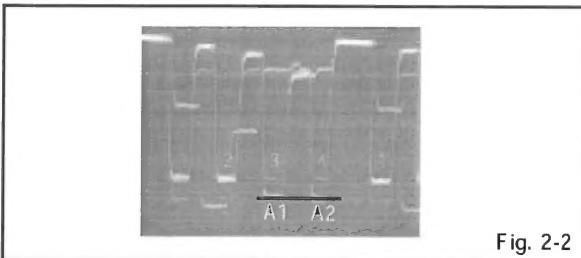

Fig. 2-2
13. Press the VOL. UP/DOWN button on the remote control until the section A1 and A2 becomes as straight line. (Refer to Fig. 2-2)